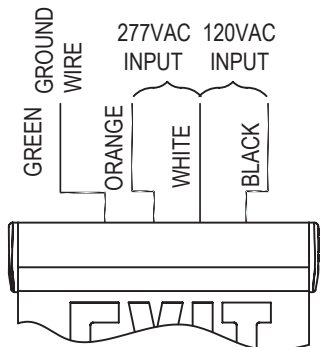

Fig. 8
11. Peel off protective film from acrylic panel.. (Fig. 8)